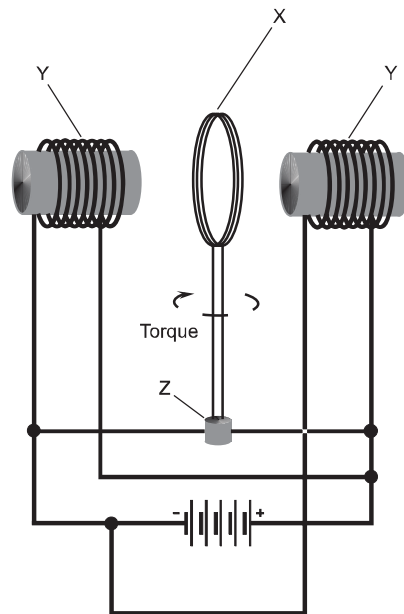

Fig. Test3-3. Illustration for Part Three Test Questions 32 through 34.
32. Figure Test3-3 is a simplified functional diagram of a DC motor. Component X is
33. In Fig. Test3-3, the components labeled Y constitute
34. In Fig. Test3-3, the component labeled Z is